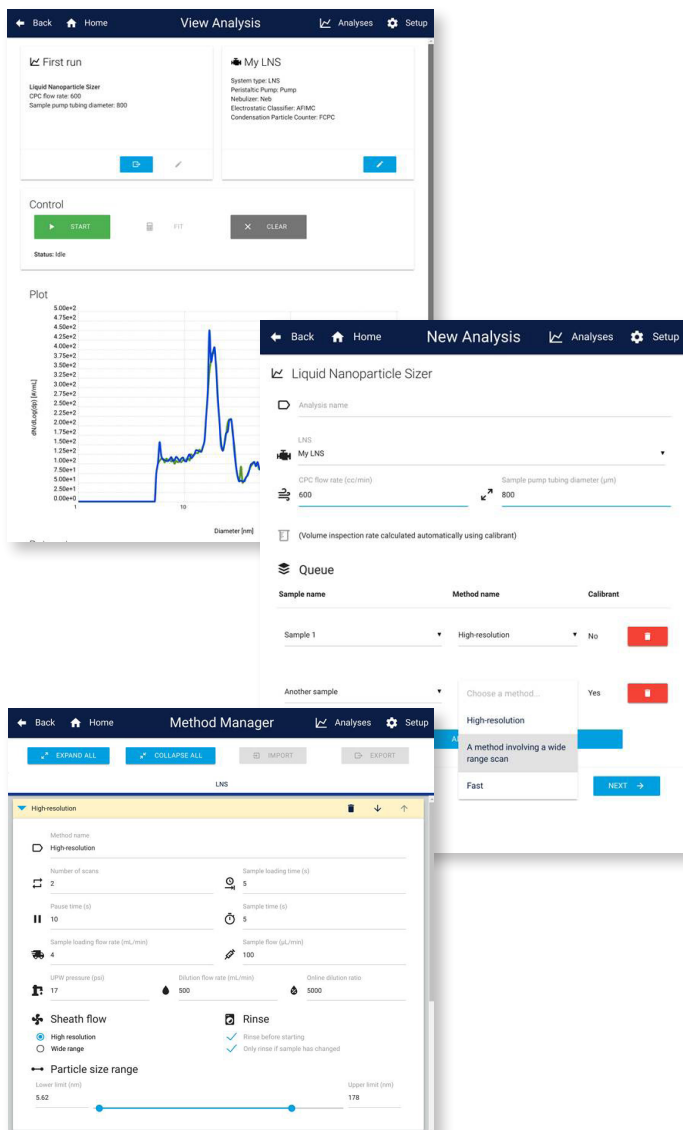

Figure 3 : Modern multi-platform software controls the LNS system and provides data analysis tools with functionality to run methods and protocols.
- LNS software to rapidly invert the concentration measurement to a particle size distribution. The intuitive software guides the user through measurement and data analysis. Figure 3 shows a sampling of the software screens.